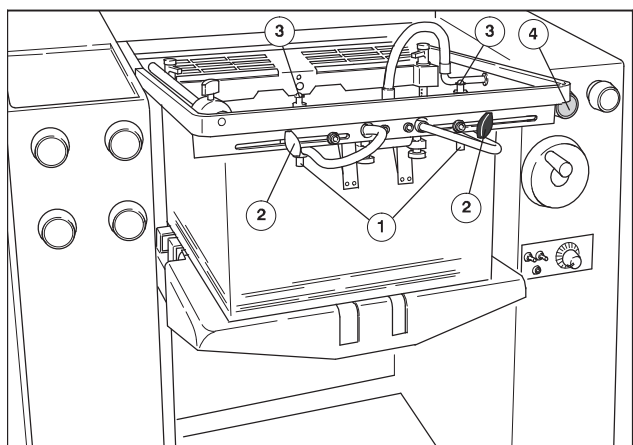

Fig. 19 Blast air at rear sheet edge
When processing **cardboard in the maximum sheet size**, the rear edge blowers improve the paper travel. The two blowers (Fig. 19/1) loosen up the rear pile edge.
1. Slacken the tommy bar screws (Fig. 19/2) and move the blowers on the cross bar inwards by approx. 1/4 of the format width.
2. Fasten the tommy bar screws (Fig. 19/2) to fix the blowers in this position.
1. Adjust the desired height by turning the knurled nuts (Fig. 19/3); approx. 3 to 8 sheets should be loosened up.
1. Use the control knob (Fig. 19/4) for stepless **variation** of the blast air volume.
2. If the blowing device is not needed, shut off the blast air. To do so, turn the control knob (Fig. 19/4) to the right up to the stop.